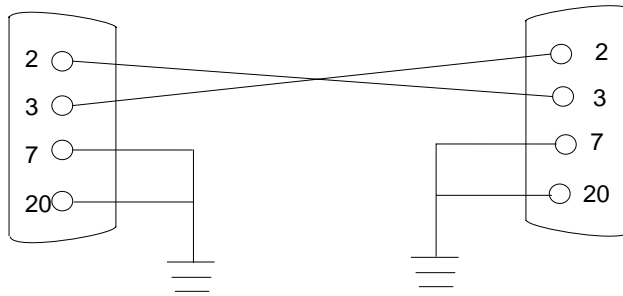

FIGURE 3-1 Setting Up a TIP Connection
1. See FIGURE 3-1. Connect serial port A of the system being tested to serial port B of another Sun workstation using a serial null modem cable (connect cable pins 2-3, 3-2, 7-20, and 20-7).